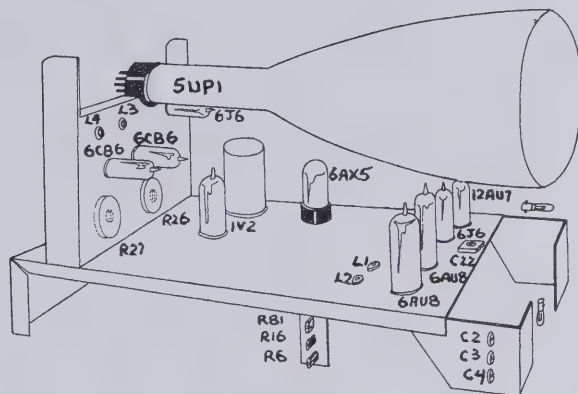

Fig. 7
- Fig. 7. Insert the large felt in the rear bezel. (A few drops of glue will hold the felt to the rear bezel securely.)
- Fig. 7. CAREFULLY remove the 5UP1 from its carton and insert in the felt-lined rear bezel. Clamp in place with the two CRT clamps. Use the small felt, two #6-32 X 3/4 screws, two #6 hex nuts, and two #6 lockwashers. Be sure the clamps are on the tube base — NOT on the glass. Insert the CRT under the twin lead from TB17 to TB11.
b) Adjust panel controls for a stationary pattern of several 60 cps sine waves (approximate overall pattern dimensions: 2" high, 3" wide). Make a preliminary adjustment for sharpness of the trace with the FOCUS control. Then set the INTENSITY control to produce a trace of normal brightness (excessive intensity will be evidenced by "blooming" of the trace). At this point any astigmatism in the trace will be evidenced by some portions of the trace being thicker than others. Now jointly adjust the astigmatism control R81 (see Fig. 7) and the FOCUS control until a sharp trace with the greatest possible uniformity of thickness is obtained.
c) Short the V-INPUT terminals. Set the VERT. ATTENUATOR to "1000" under the AC arc on the dial and the VERT. GAIN control for minimum gain. Adjust the V. POS. control for a trace vertically at dead center. Now set the VERT. GAIN control for maximum gain and adjust the DC balance control R16 (see Fig. 7) until the trace is returned vertically to dead center. Repeat until no vertical shift in the trace can be detected when the VERT. GAIN control is rotated from minimum to maximum.
d) Adjust linearity controls R26 and R27 (see Fig. 7) exactly as follows. Set the VERT. GAIN control for minimum gain. Set your VTVM or VOM (at least 1000 Ω /volt) to a low DC volts range on which 2 volts dc can be read with reasonable accuracy. Connect the negative voltmeter lead to grid pin 1 of the 6CB6 tube V3 and the positive lead to cathode pin 2. Adjust the linearity control R26 for a voltmeter reading of 2 volts; or as near 2 volts as the control permits. Disconnect both voltmeter leads from the grid and cathode pins of V3. Now connect the negative voltmeter lead to grid pin 1 of the other 6CB6 tube V4 and the positive lead to the cathode pin 2. Adjust the other linearity control R27 for a voltmeter reading of 2 volts also, or if 2 volts was not obtainable in the previous adjustment, to whatever voltage was obtained in this adjustment. Do not attempt voltage measurements to ground as there is a voltage of approximately 100 volts between each 6CB6 cathode and ground which might seriously damage a voltmeter set to a low range. Change in H positioning is normal during these adjustments.
i) Adjustment of calibration voltage: Set your VTVM or VOM to the ac voltage range on which 1.42 volts rms (or 4 volts peak-to-peak) can be read as accurately as possible. Connect one voltmeter lead to the junction of rheostat R6 and resistor R5 and the other lead to chassis ground. Adjust rheostat R6 (see Fig. 7) for a reading of 1.42 volts rms or 4 volts peak-to-peak. Note that this voltage is applied to a 10:1 divider composed of R4 and R5, so that the voltage actually injected into the vertical amplifier is 400 millivolts peak-to-peak.
j) Adjustment of TV-H sweep trimmer: Set the SWEEP SELECTOR at TV-V. Then set the VERT. ATTENUATOR to CAL., the HOR. SELECTOR at "+", and adjust the SWEEP VERNIER to obtain a stationary pattern of two complete cycles on the screen indicating a 30 cps sweep frequency. Now turn the SWEEP SELECTOR to the TV-H position and apply a 15,750 cps signal taken from the horizontal section of any tv set to the V. INPUT terminals. Adjust the VERT. ATTENUATOR & VERT. GAIN controls to obtain a drifting pattern entirely on screen but do not touch the SWEEP VERNIER. Now adjust trimmer C22 (see Fig. 7) until a stationary pattern of two complete cycles is obtained on the screen, indicating a 7875 cps sweep frequency. This completes the adjustment. Now, whenever the SWEEP VERNIER is set to produce a 30 cps sweep (indicated by two cycle display of 60 cps signal) with the SWEEP SELECTOR set at TV-V, turning the SWEEP SELECTOR to TV-H without touching the SWEEP VERNIER will automatically give a 7875 cps sweep.
TUBE REPLACEMENT: Tube location is shown in Fig. 7. Readjustment will be required when replacing V1, V2, V3, or V4. When the CRT is replaced, it must be rotated until the horizontal trace is level.